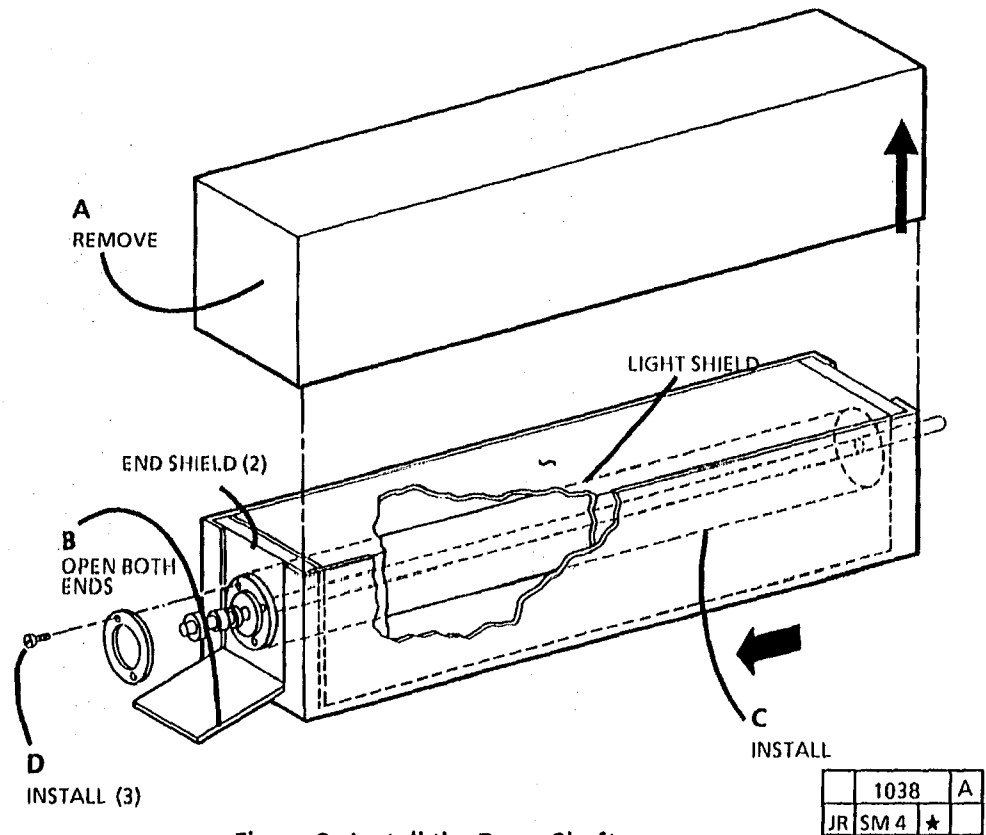

Figure 2. Install the Drum Shaft
1. (Figure 2): Install photoreceptor drum shaft.